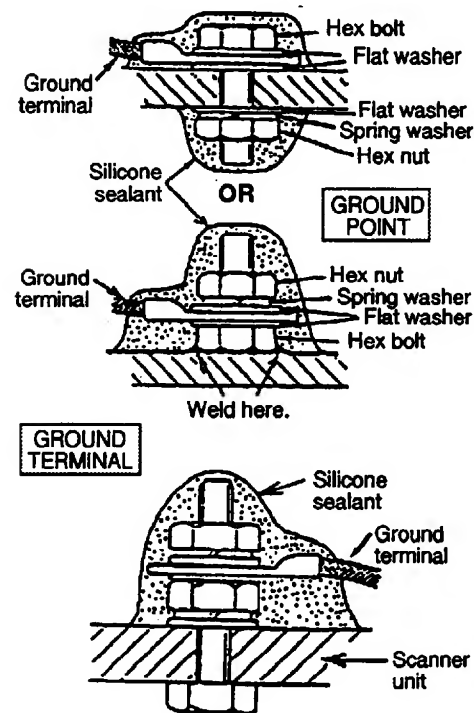

Figure 5 How to coat ground point and ground terminal with silicone sealant
- 6) Coat ground terminal and ground point with silicone sealant as shown in Figure 5.